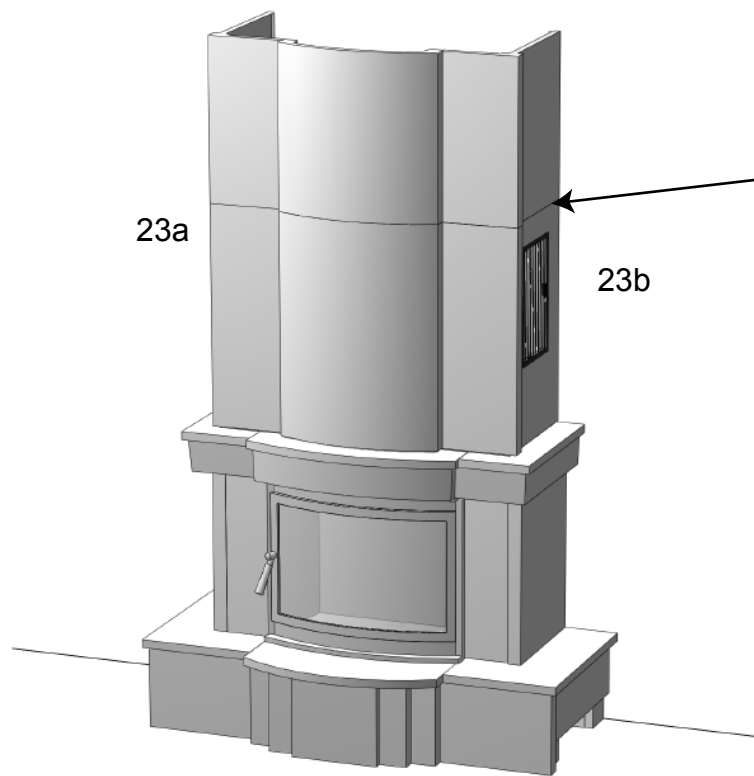

Fig. 3
-Apply a little acryl to the joints and even it out with a wet finger (Fig.3). Any excess acryl should be removed immediately with a wet sponge.